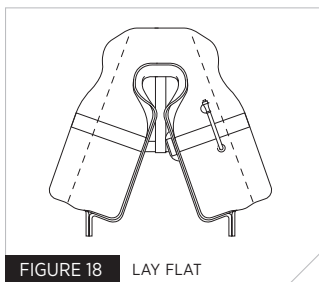

FIGURE 18 LAY FLAT
1. Lay the PFD on a flat, clean surface (Fig. 18).